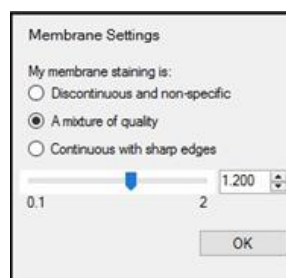

FIGURE 13.13. Membrane Settings dialog box.
2. Click the “...” button to open the Membrane Settings dialog box. (See Figure 13.13.)